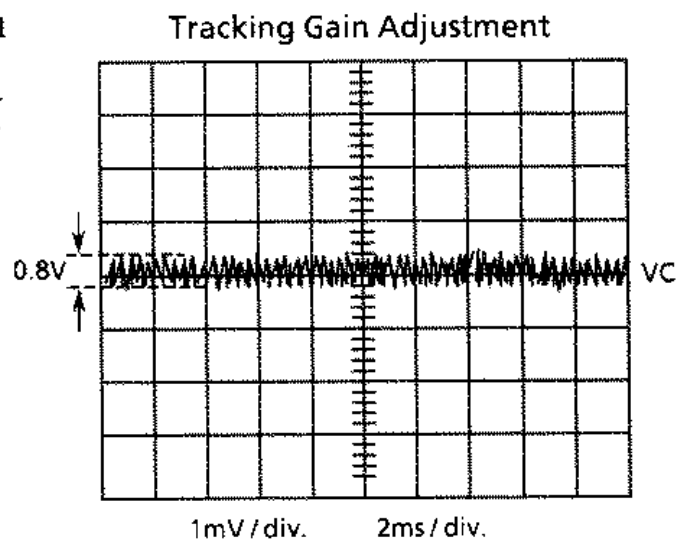

Fig. 2
1. Connect an oscilloscope to TP 501 pin4 (TE) and TP 501 pin8 (VC).
3. Adjust R524 (T.GAIN ADJ.) so that the correct waveform as shown in figure 2 is obtain.